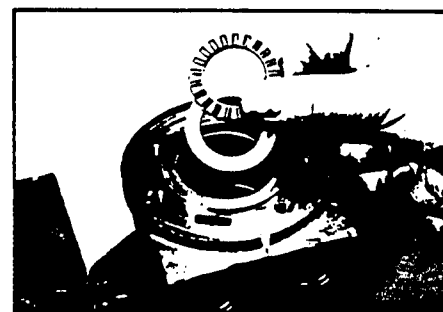

Figure 45
6. Assemble thrust washer (14) then thrust bearing (15) that was removed from the Series MG or MF Torqmotor. SEE FIGURE 45.